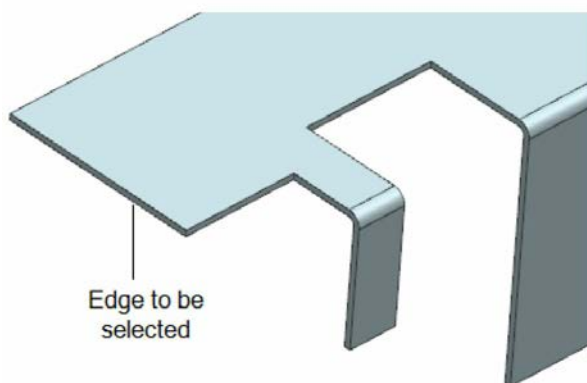
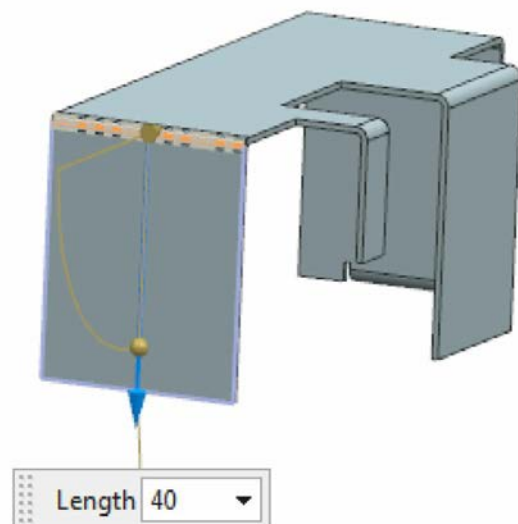

Figure 14-112 Edge to be selected
Figure 14-113 Preview of the fifth flange
11. Next, create the fifth flange of 40 mm length by selecting the edge, as shown in Figure 14-112. The preview of the flange is shown in Figure 14-113.